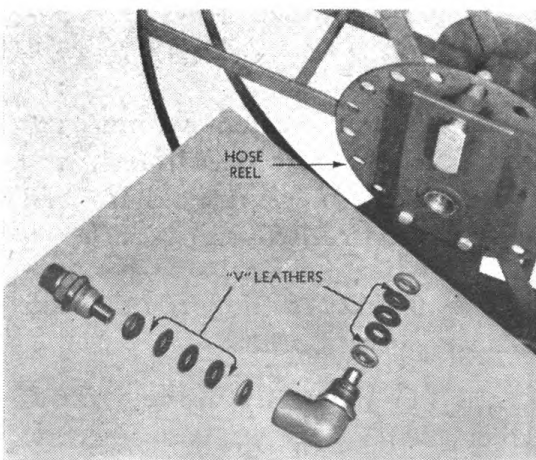

Figure 61
(2) Disassemble swivel, replace "V" leathers (See Figure 61), and reassemble. Be sure that "V" leathers and washers are assembled in correct position as illustrated.